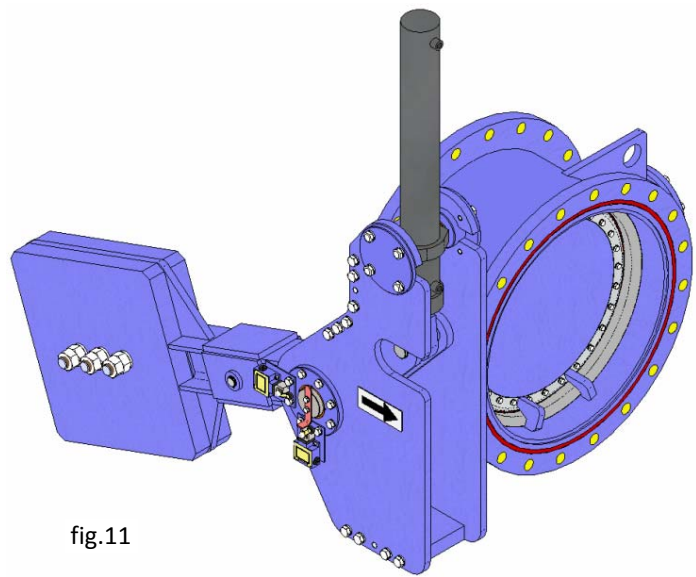

fig.11
- Hydraulic actuator (fig. 11): When the valve is fitted with a hydraulic cylinder as the actuator, there is the option of adding a counterweight. In the event of failure in the hydraulic circuit, this counterweight would tend to shut off the valve, whilst the hydraulic cylinder would act as an absorber, allowing the sealing speed to be controlled from the starter valve. It can therefore be adjusted for gentle sealing without water hammer effect.